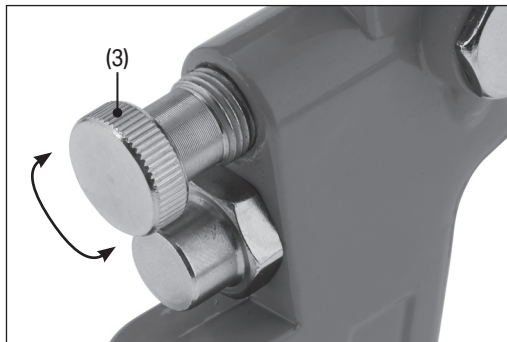

Fig. 6
The fluid control dial (3) adjusts the amount of paint that is released into the airflow and the density of the spray when the trigger is fully depressed (Fig. 6):